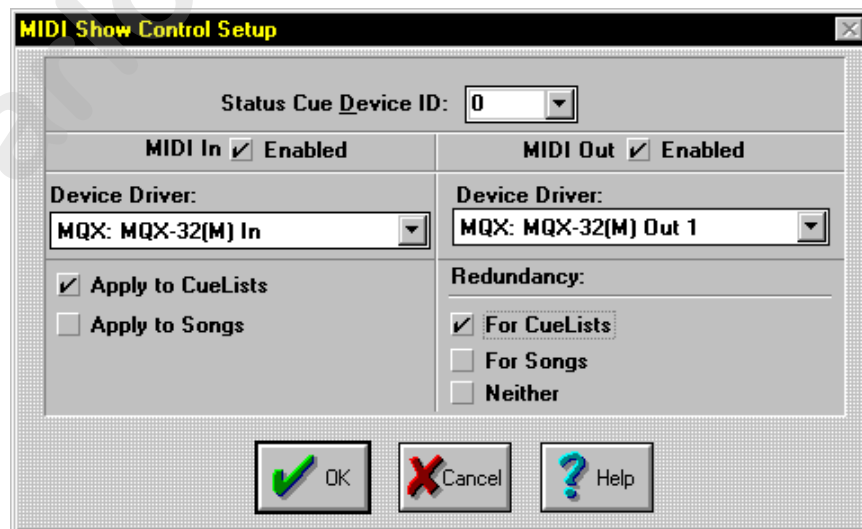

Figure 3.1. MIDI Show Control Setup
1. Select **MSC Setup...** from the **Configure** drop-down menu. This brings up the **MIDI Show Control Setup** dialogue box. Refer to Figure 3.1.